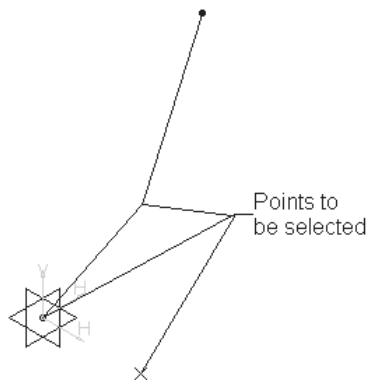

Figure 6-74 Points to be selected to create a plane
4. Create a plane by selecting three points, as shown in Figure 6-74.